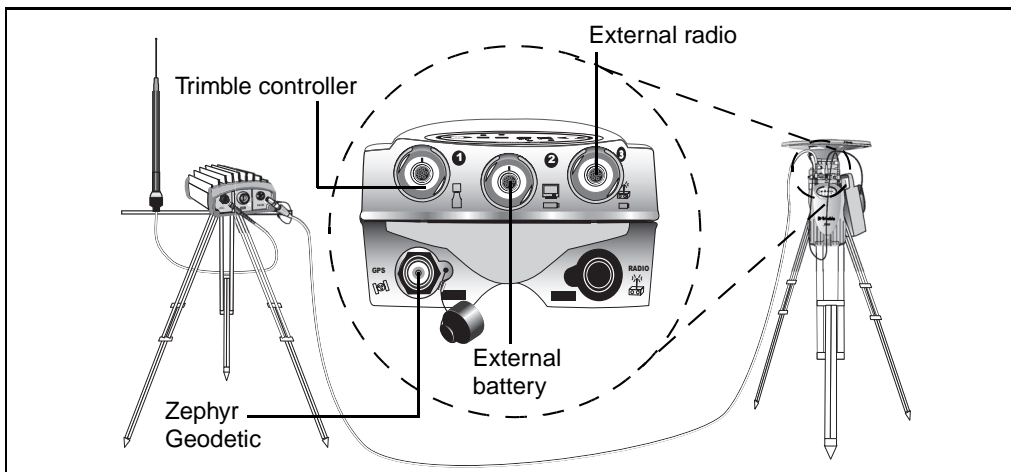

Figure 3.1 5700 RTK base station setup
8. Turn on the controller and go to page 240. (see Figure 3.1.)